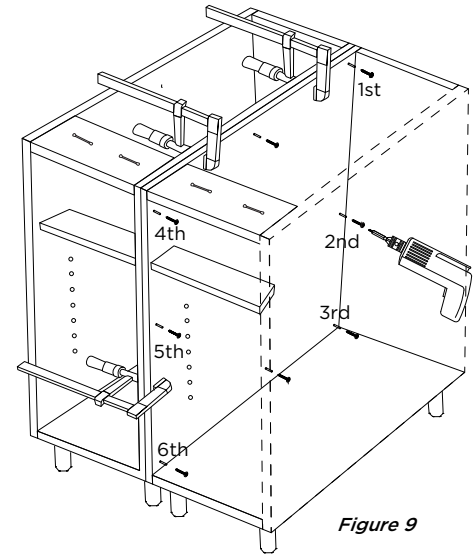

Figure 9
4. On the adjacent cabinet, drill 3 pilot holes along the front edge. Position these holes where they are not visible, above the drawer bridge or behind the hinge plates. Insert a #8 x 1 1/4" stainless steel screw (Figure 9) into each hole and tighten securely.
5. Next, create a second set of holes 1" from the cabinet back panel, running parallel to the front. Insert a #8 x 1 1/4" screw into each hole and tighten it firmly. Finish by inserting screws into the center top and bottom panel (Figure 9). After drilling, use a countersink bit on all holes to ensure the screw heads are flush with the material surface. Sequence: drill, counter sink, insert screw and tighten (Figure 9).